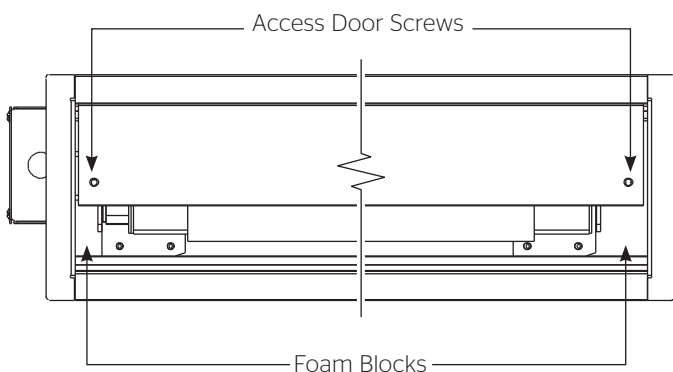

Figure 1
5. For shipping purposes, foam is also inserted between the roller brackets and endcaps (Figure 1). Remove these foam blocks from the ends.
1. Remove the access door. First, remove the 2 screws from the ends using a #2 phillips screwdriver. Be sure to support the door during this step to avoid injury. Then lift the door slightly and pull away from the edge of the case (Figure 1).